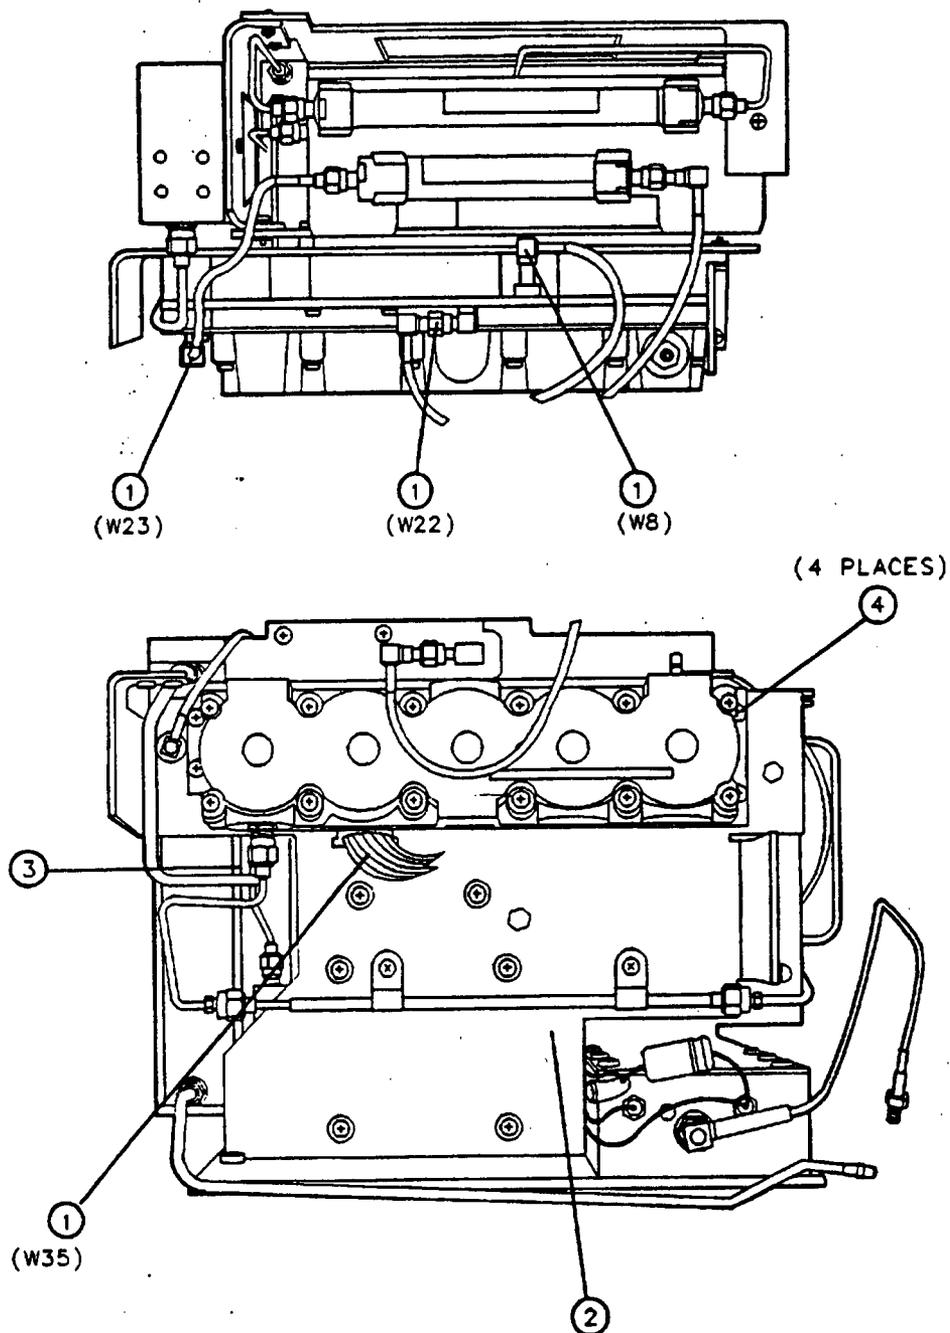

Figure 3-13. A3A4 Second Converter Replacement
4. Remove W8, W22, W23, and W35 (1) from the A3A4 Second Converter. See Figure 3-13.
3. Replace the four screws (4) that secure the second converter to the "B" bracket. See Figure 3-13.